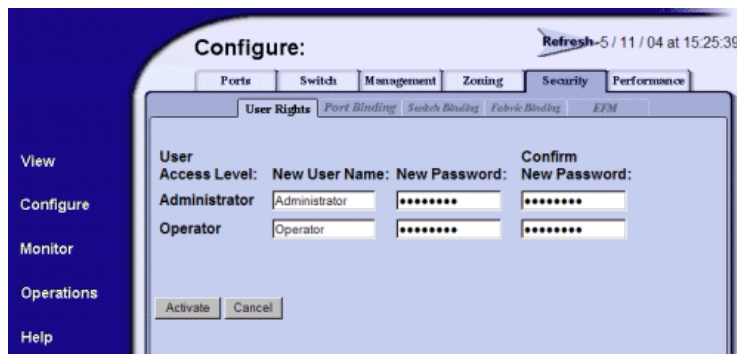

Figure 47: Security page—User Rights tab
1. Choose **Configure > Security** to display the **User Rights** tab as shown in Figure 47.